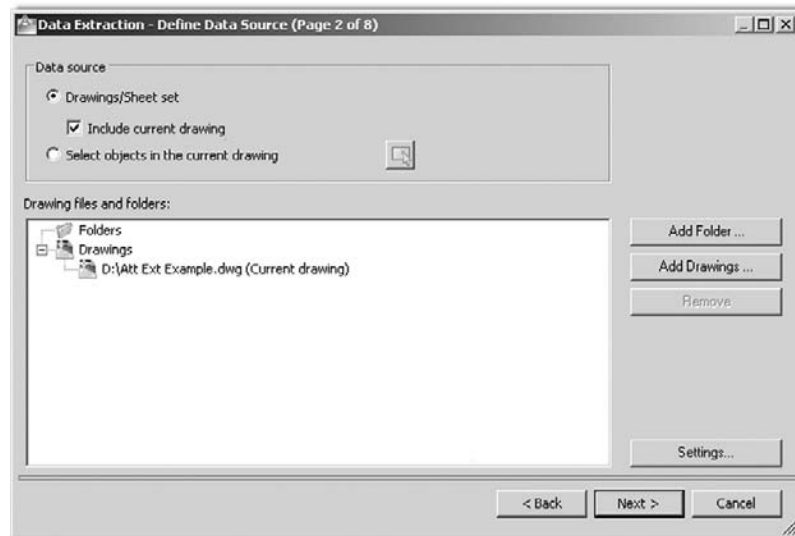

FIGURE 18.12
- Step (Page) 2.** Define Data Source (Figure 18.12). Here, we are interested in the data source, or location of the file to be looked at. Leave the default choice with the Include current drawing box checked off. Press Next >.